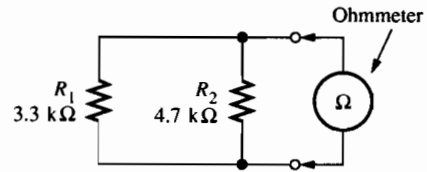

Figure 9-3
- In Table 9-2 you will tabulate the total resistance as resistors are added in parallel. (Parallel connections are indicated with two parallel lines shown between the resistors.) Enter the measured value of R_1 in the table. Then connect R_2 in parallel with R_1 and measure the total resistance as shown in Figure 9-3. Enter the measured resistance of R_1 in parallel with R_2 in Table 9-2.